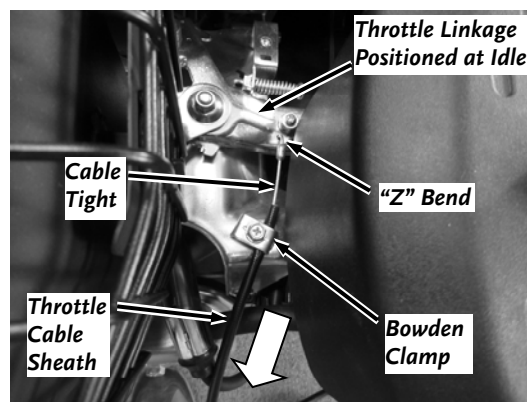

Figure 28
1. Hook the "Z" Bend end of the Throttle Cable in the Hole (hole furthest left) in the Throttle Linkage (**Figure 28**). Loosen the Bowden Clamp with a Phillips Screw Driver and position the Cable Sheath under the Clamp.